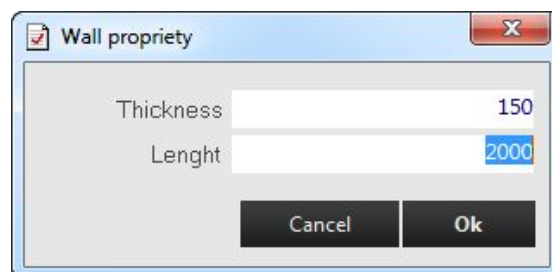

Figure 5.5: To set wall thickness and length.
-  Dragging the wall end yellow arrow, changes the wall length, or selecting it and pressing the SPACE bar (or ENTER) temporary changes the wall length and thickness, see figure 5.5.